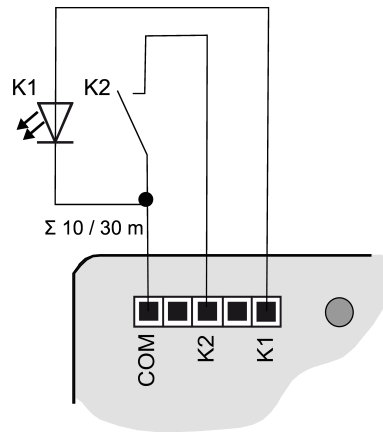
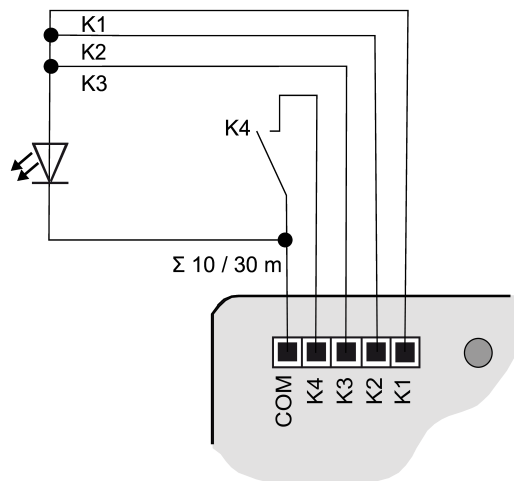

Figure 3: Connection example: push-button interface 2-gang
Figure 6: Connection example with outputs switched in parallel
- Connect push-buttons, switches, contacts, LED or NTC to enclosed connecting cables (4) according to the connection examples; (see figure 3) to (see figure 6). The connection examples show the use with inputs and outputs.
i To increase the output current, outputs can also be switched parallel to each other with the same parameterization; in the example here, (see figure 6) K1-K3 are switched in parallel.